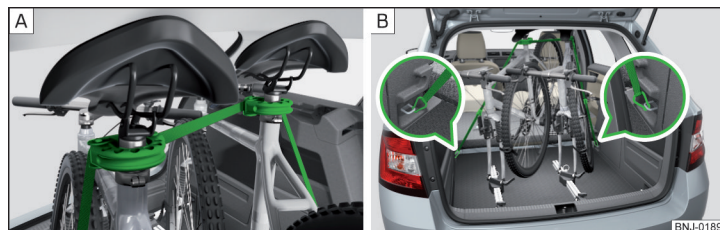

Fig. 114 Ensure the stability of the bicycles with a belt
- When transporting two bicycles, stretch the belt » Fig. 114 - **A** between the saddles by moving the bicycles apart.
- Hook the carabiners on the ends of the belt into the lower lashing eyelets behind the rear seats » Fig. 114 - **B**.